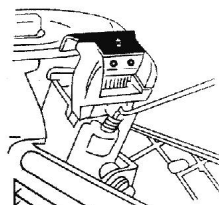

Figure 6
2. Pull the arm frame out. See Figure 6.